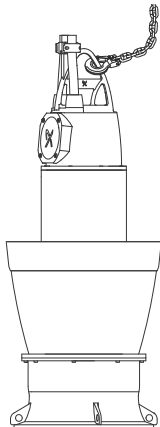

Fig. 24 Pump secured with a crane
2. Secure the pump by using the lifting chain and a crane to prevent it from tilting. The pump must rest on the ground without any load on the crane. See fig. 24.